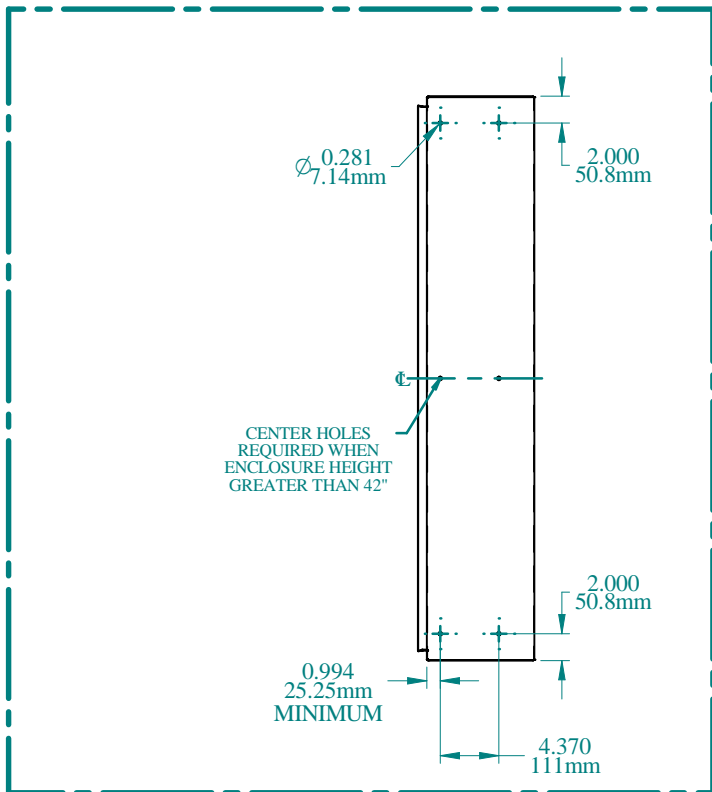

FIG. 1
- 1) DRILL HOLES IN ENCLOSURE FOR FIELD INSTALLED KITS (FIG. 1)